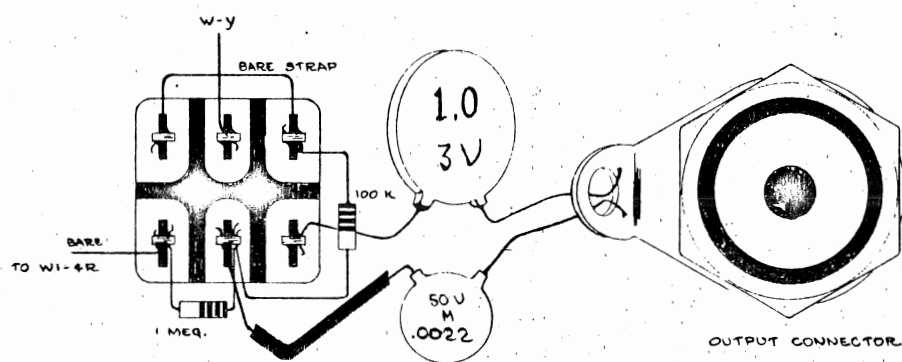

Fig. 10
- ( ) Resolder it to the terminal indicated in Fig. 10.
- ( ) 36. Solder the 2-1/2in. length of white-yellow wire (from kit) between the 'B' SELECTOR switch W2-8R, and the switch terminal indicated in Fig. 10.
- ( ) Place a 1in. length of plastic tubing (from kit) over the wire and dress the wire to the switch terminal indicated in Fig. 10. DO NOT SOLDER until the next step.
- ( ) 38. Resolder the components and wires to the switch as indicated in Fig. 10, using the bare wire from the kit.